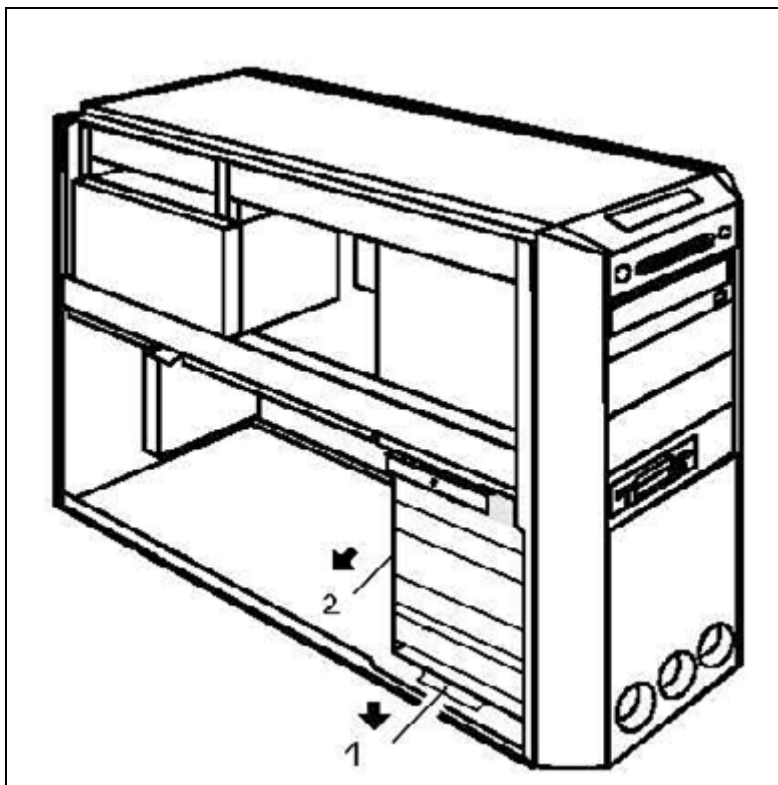

Fig. 42: Replacing a PCI board\_2
6. Press the locking bar (1/Fig. 42 / p. 67) downward and pull the hard drive casing (2/Fig. 42 / p. 67) out of the PC.